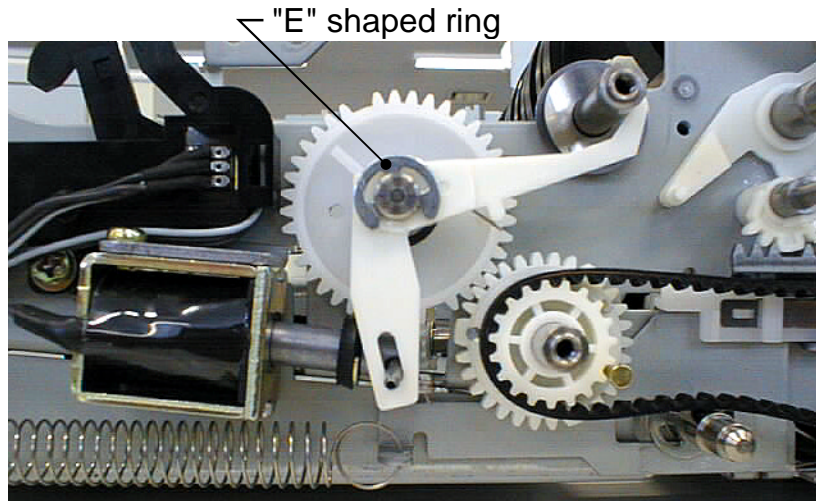

Figure 4-104. Installing "Lever, Stopper, ASF"(2)
- 23. Fix "Lever, Stopper, ASF" with "E" shaped ring. (Refer to Figure4-104)